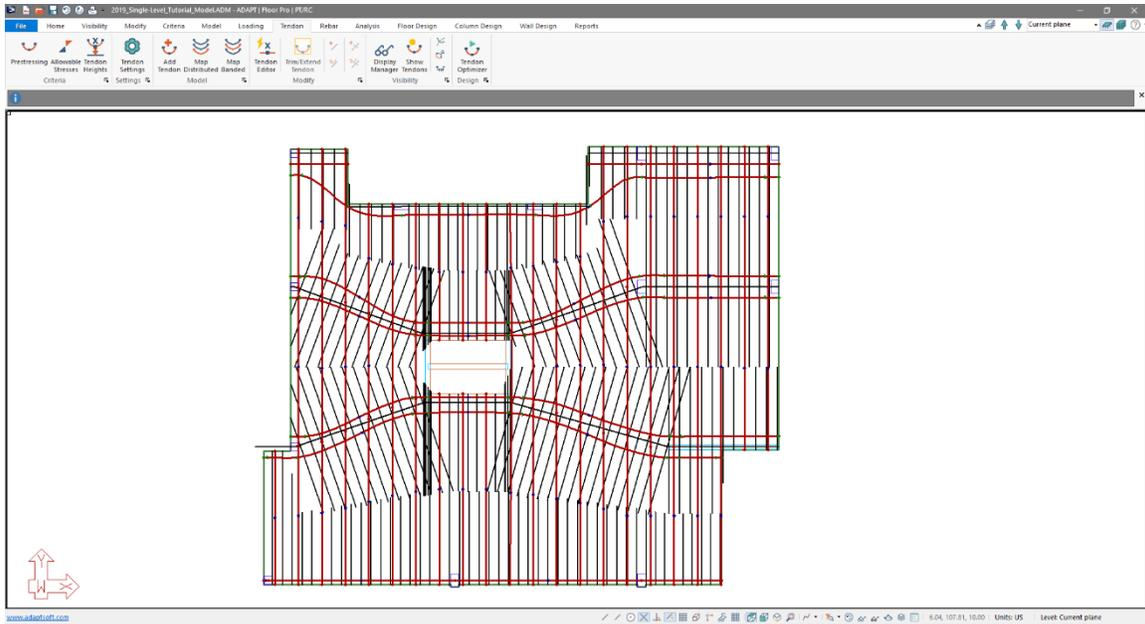

Figure 8-56
- The user's screen should at this point look similar to **FIGURE 8-56**.